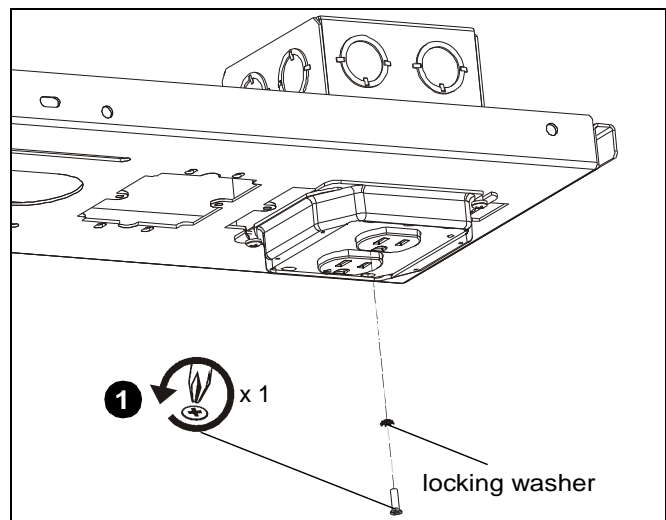

Figure 1
1. Remove 6-32 x 1/2" Phillips flat head screw and #06 locking washer from outlet box. (See Figure 1)